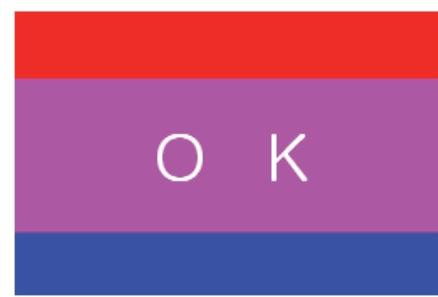

Fig.2
- (2) Press 'OK" key as a 3D input OSD is shown.
- (3) Check pattern as Fig2 without 3D glasses. (3D mode without 3D glasses)